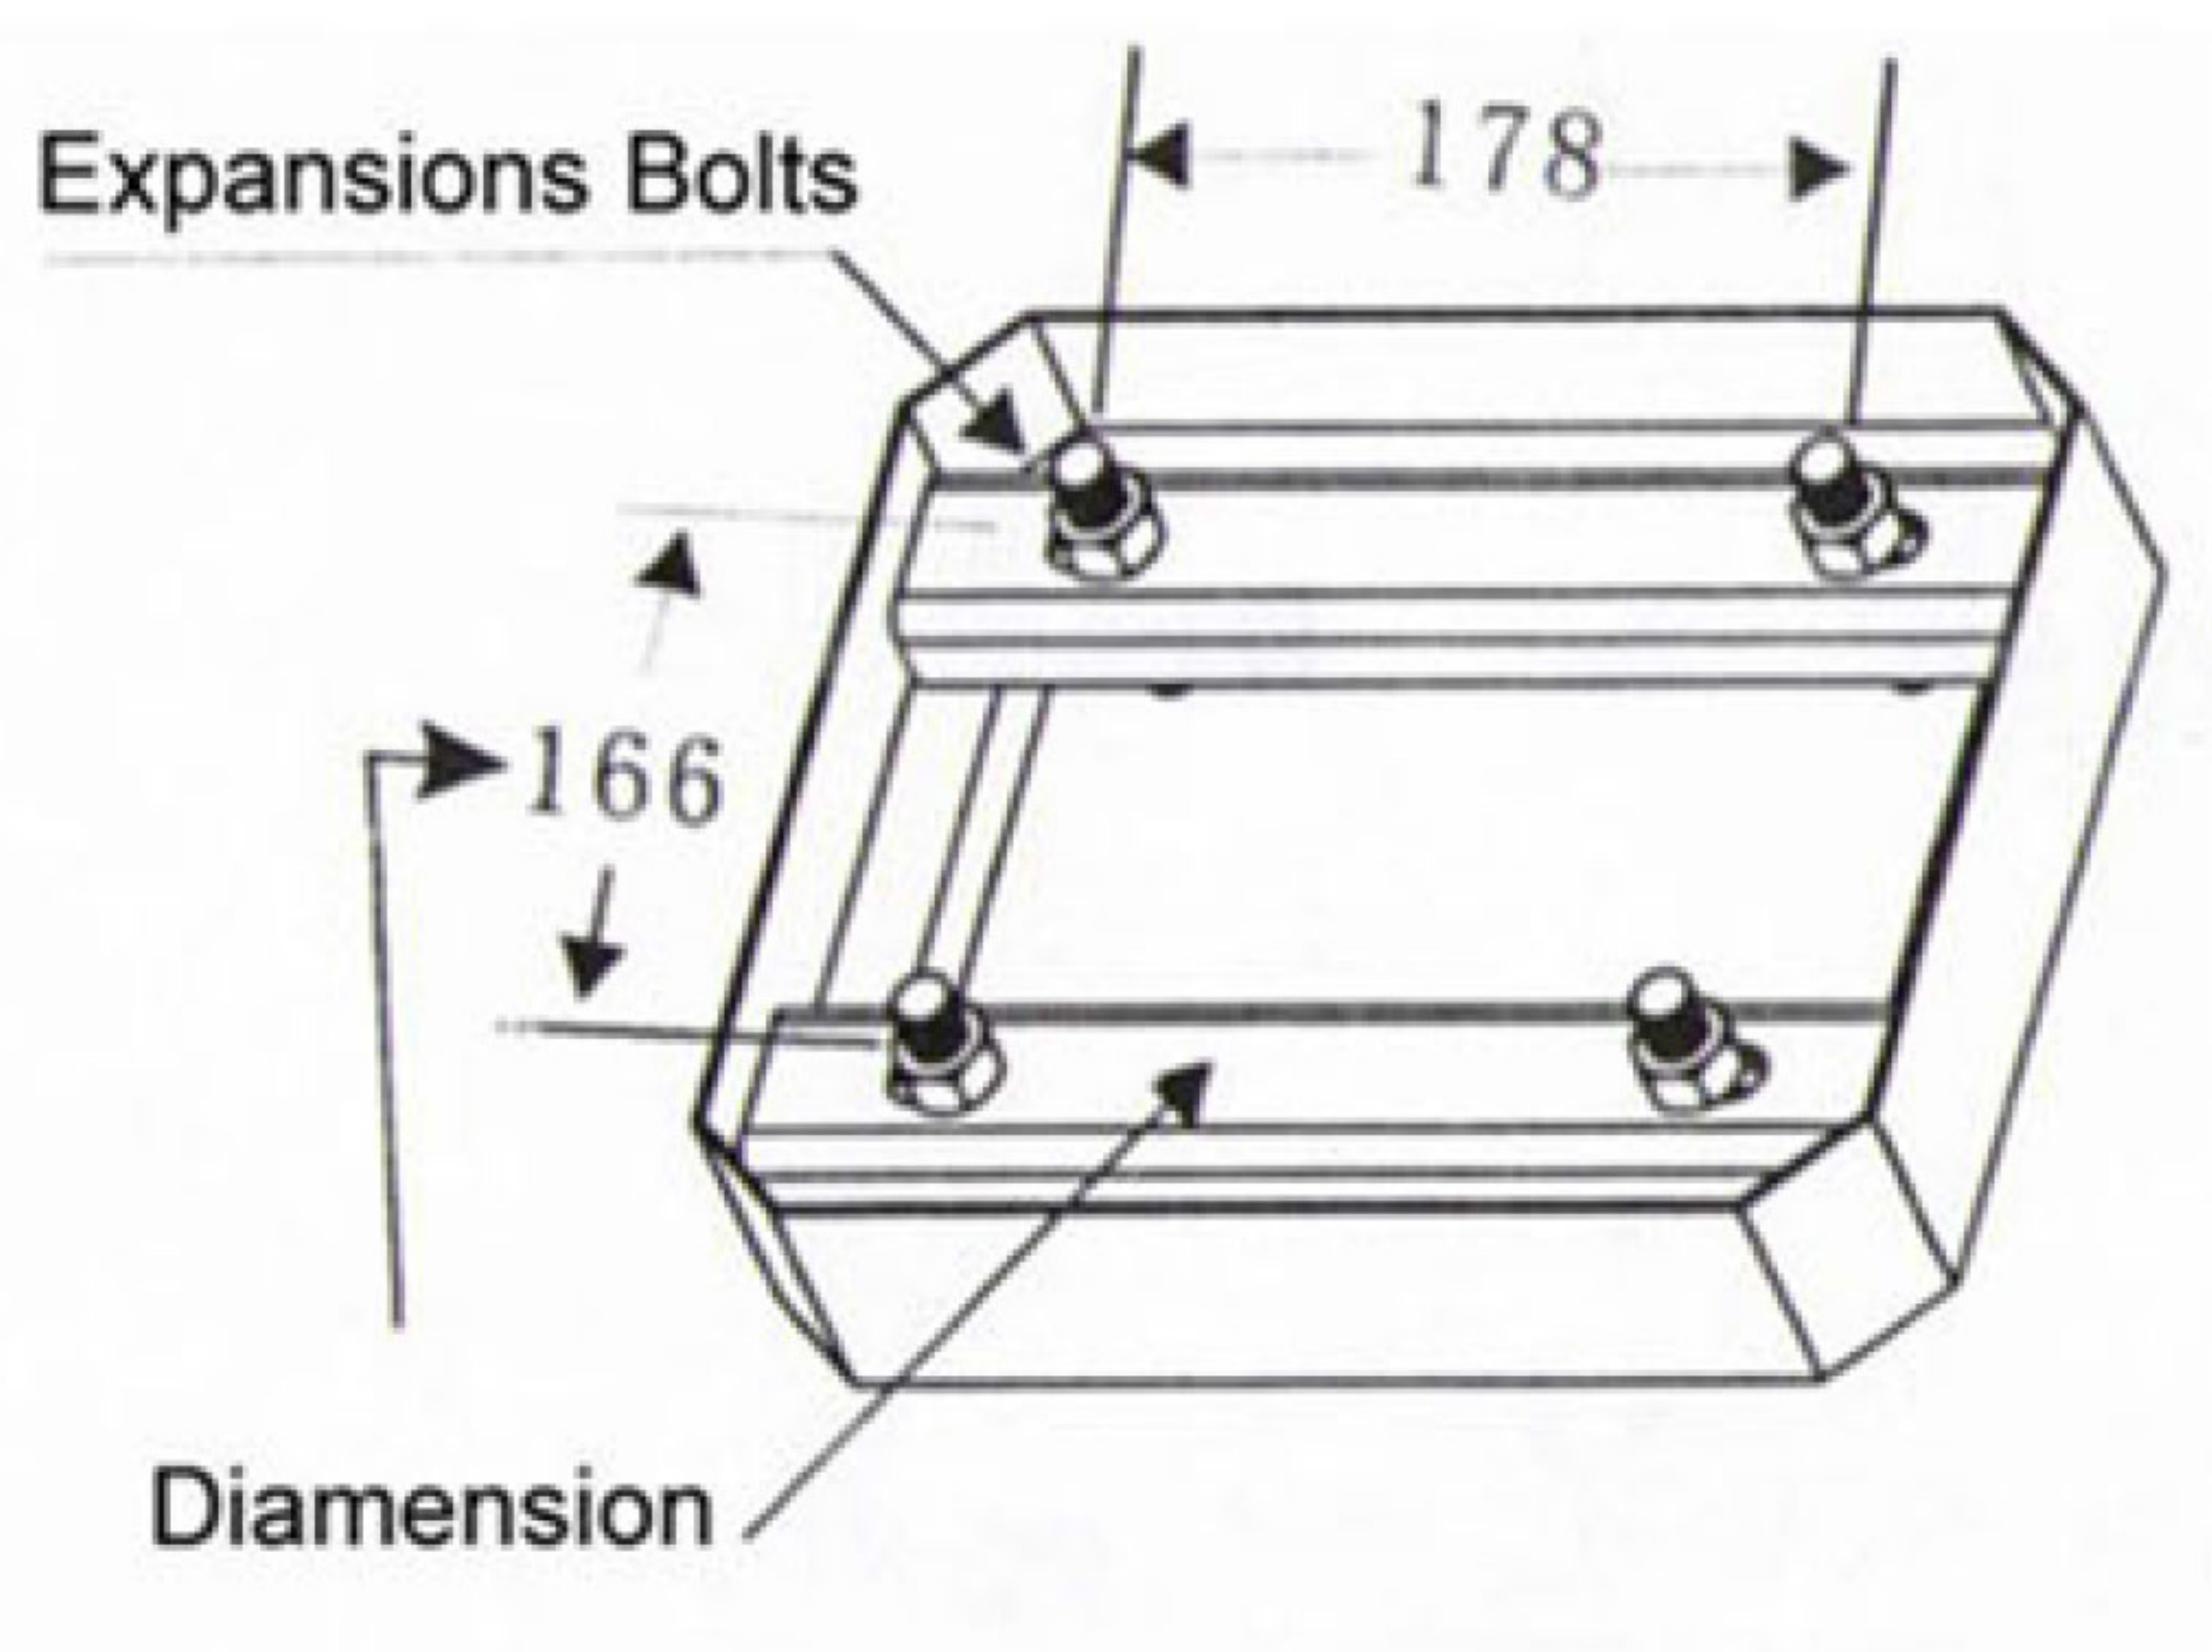

Figure 3 Press plate of case
(Fig.3)
7.1.1 Please select the correct type of barrier gate according to the specifications of the place, and then fix the barrier cabinet with expansion bolts (refer to Figure 3).